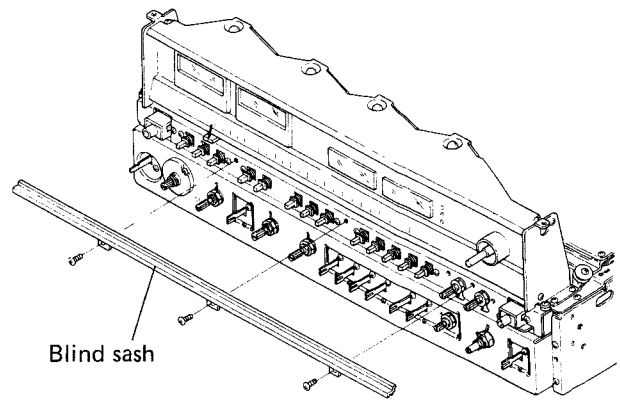

Fig. 9-1
2. Undo the 3 screws to remove the blind sash (see Fig. 9-1).